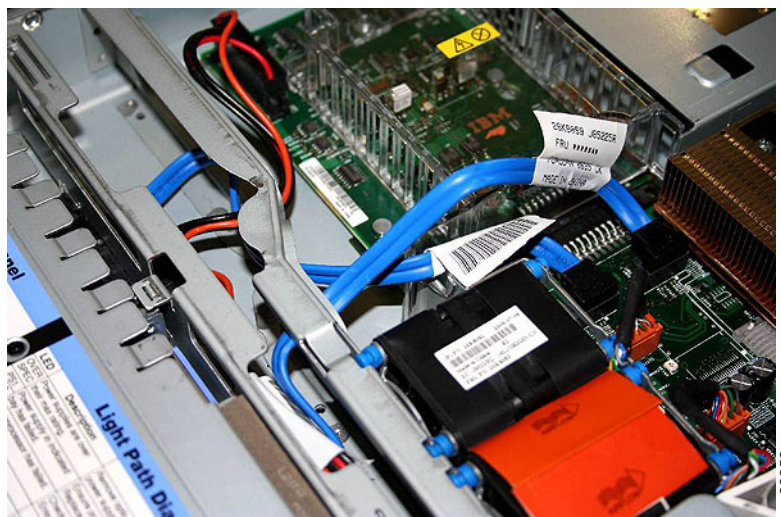

Figure 168. Reconnecting the SATA cable assembly
4. Reconnect the power cable to the power supply backplane card. Then reconnect the two blue signal cables to the system board. The left cable goes to the front system board connector and the right cable goes to the rear system board connector, as shown in Figure 168.